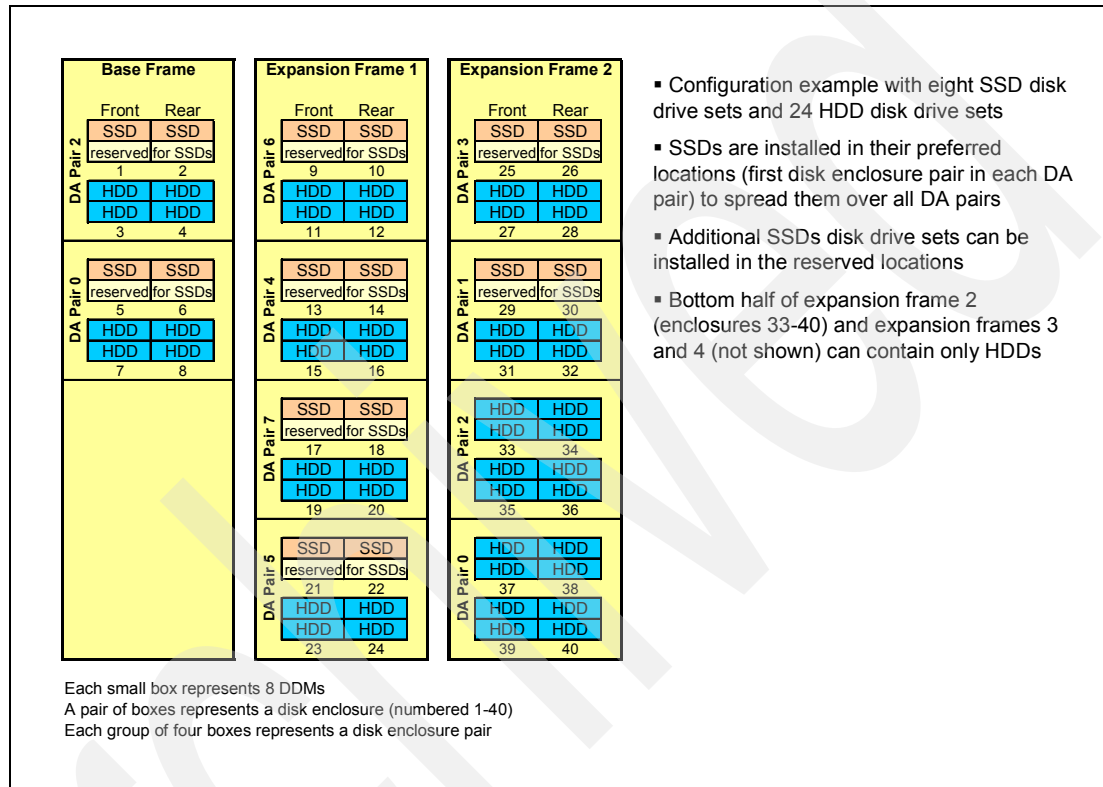

Figure 8-4 Standard configuration with SSD and HDD drives
- ▶ SSD disks are installed in their preferred locations, these being the first disk enclosure pair on each device adapter (DA) pair. This is done to spread SSD disks over as many DA pairs as possible for improved performance. The preferred locations are split among eight locations in the first three frames, two in the first, four in the second, and two in the third. See Figure 8-4 on page 204.
Figure 8-4 shows a sample DS8700 configuration with SSD drives installed in all the eight preferred locations. The figure shows the standard locations of SSD and HDD disk drive sets.